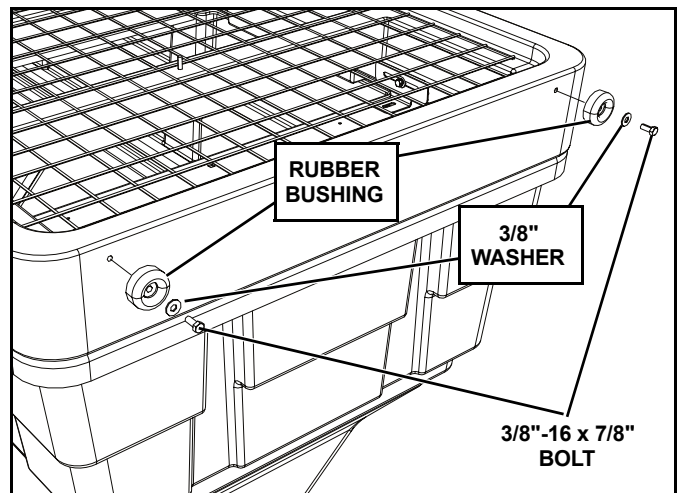
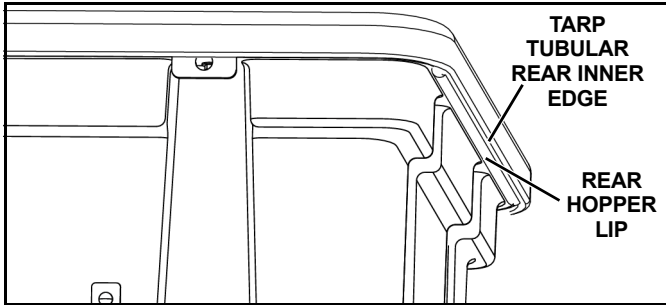

Figure 8
Figure 9
- Install the two rubber bushings using the 3/8"-16 x 7/8" bolts and 3/8" washers, securing them into the hopper extension. (See Figure 8.)
9. Stretch the tarp over the hopper and position the tubular rear inner edge of the tarp snugly under the rear hopper lip (See Figure 9.) or the rubber bushings (for RVB 3000 only - see Figure 8).